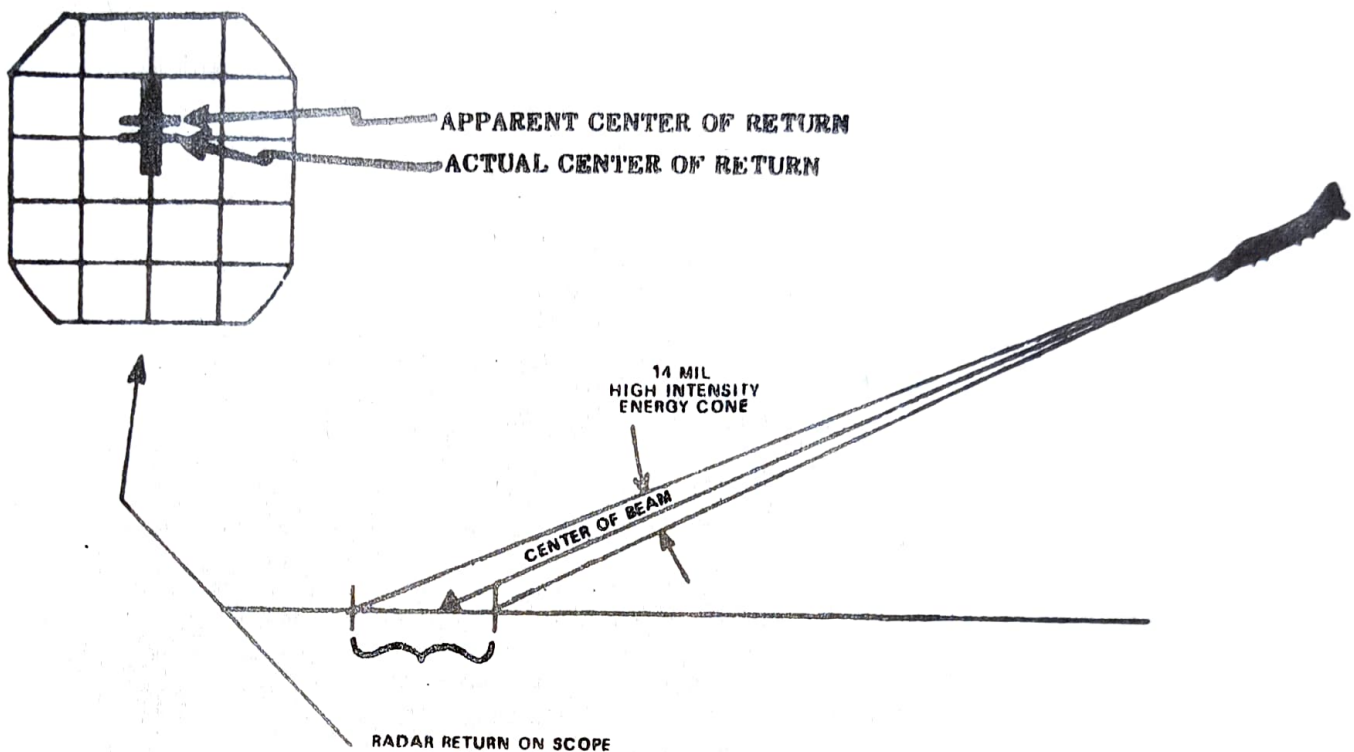

FIGURE 7-1
- d. For shallow dive angle lockons, ($\leq 30^\circ$) the range gate should be positioned approximately 1/3 of the distance up the return length to insure lock to the center of the nutating beam. Figure 7-1 depicts the reason for this rule-of-thumb, i.e. increased graze angle of the radar beam which lengthens the return on the far side.